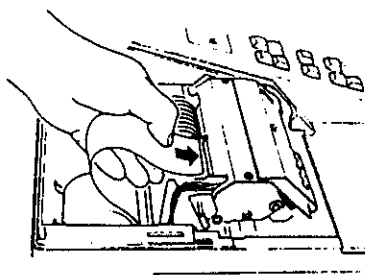

Fig. 4
5. Place the paper roll in the outer holder of the two roll holders (Fig. 4).